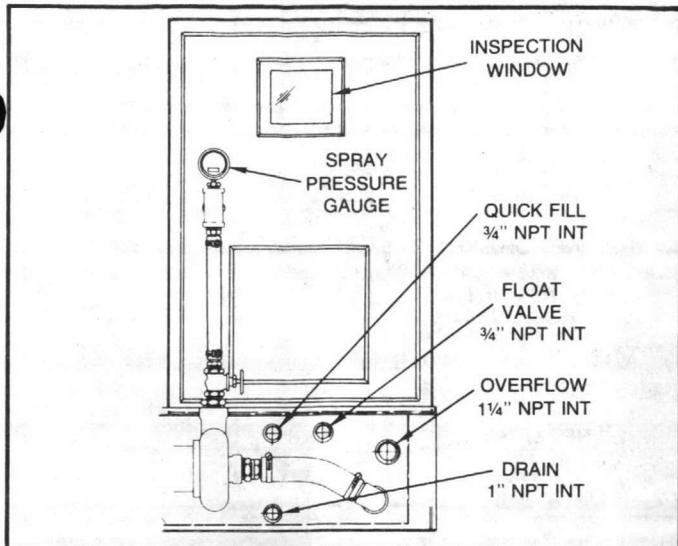

FIGURE 33A - Spray Coil Unit Tank Connections
1. Make-up water to the float line. See Figure 33A.